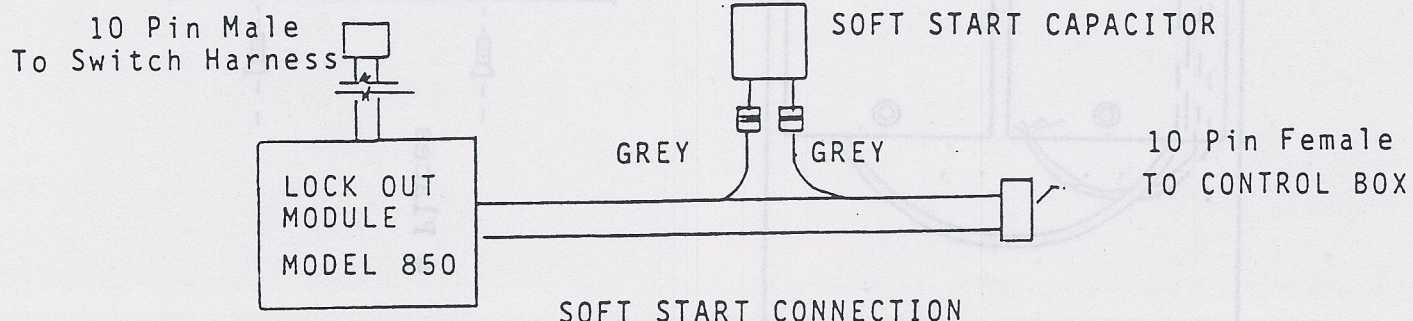

Fig. 7A
H. Soft-start capacitor connection: The soft-start capacitor must be connected as shown in figure 7A.